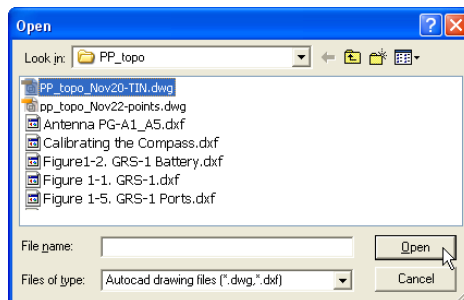

Figure 5-3. Open AutoCAD 3D TIN File
2. On the **Open** dialog box, navigate to the location of the desired file, select it, and press **Open** (Figure 5-3). The information from the selected file is added to the 3D Project file.